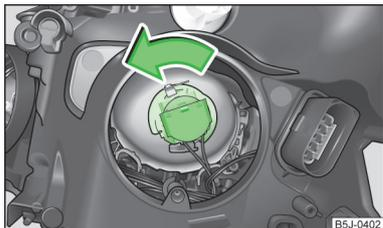

Fig. 156
- Turn the socket with the bulb to the stop in the direction of the arrow » Fig. 156 and remove it.